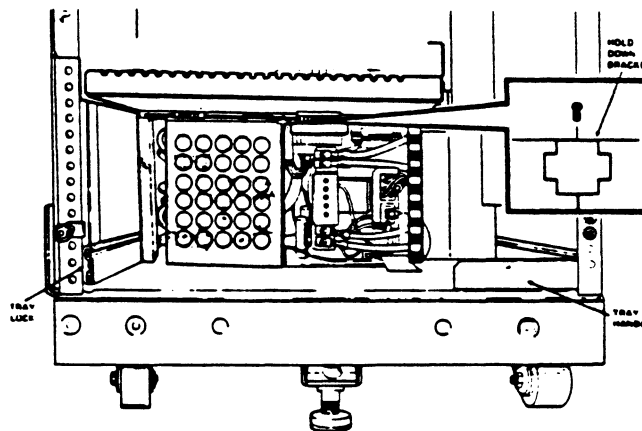

FIGURE 5-15 CABINET POWER SUPPLY REMOVAL
7. Push the power supply tray lock (located on the left edge of the tray slide) in. Slide the tray out by pulling on the tray handle until the second tray lock engages. See Figure 5-15.